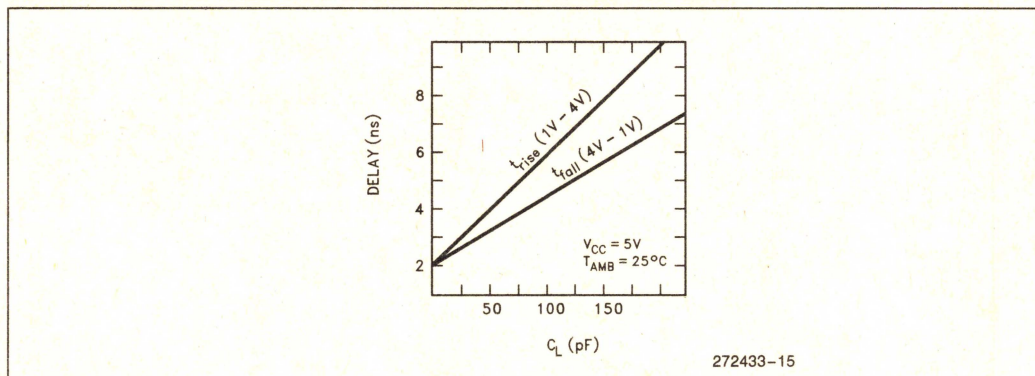

Figure 14
5. Specified for a 50 pF load, see Figure 14 for rise and fall times outside 50 pF.
6. See Figure 14 for rise and fall times.
Figure 14 shows the correct reset sequence when first applying power to the processor. An external clock connected to CLKIN must not exceed the V_{CC} threshold being applied to the processor. This is normally not a problem if the clock driver is supplied with the same V_{CC} that supplies the processor. When attaching a crystal to the device, $\overline{\text{RESIN}}$ must remain active until both V_{CC} and CLKOUT are stable (the length of time is application specific and depends on the startup characteristics of the crystal